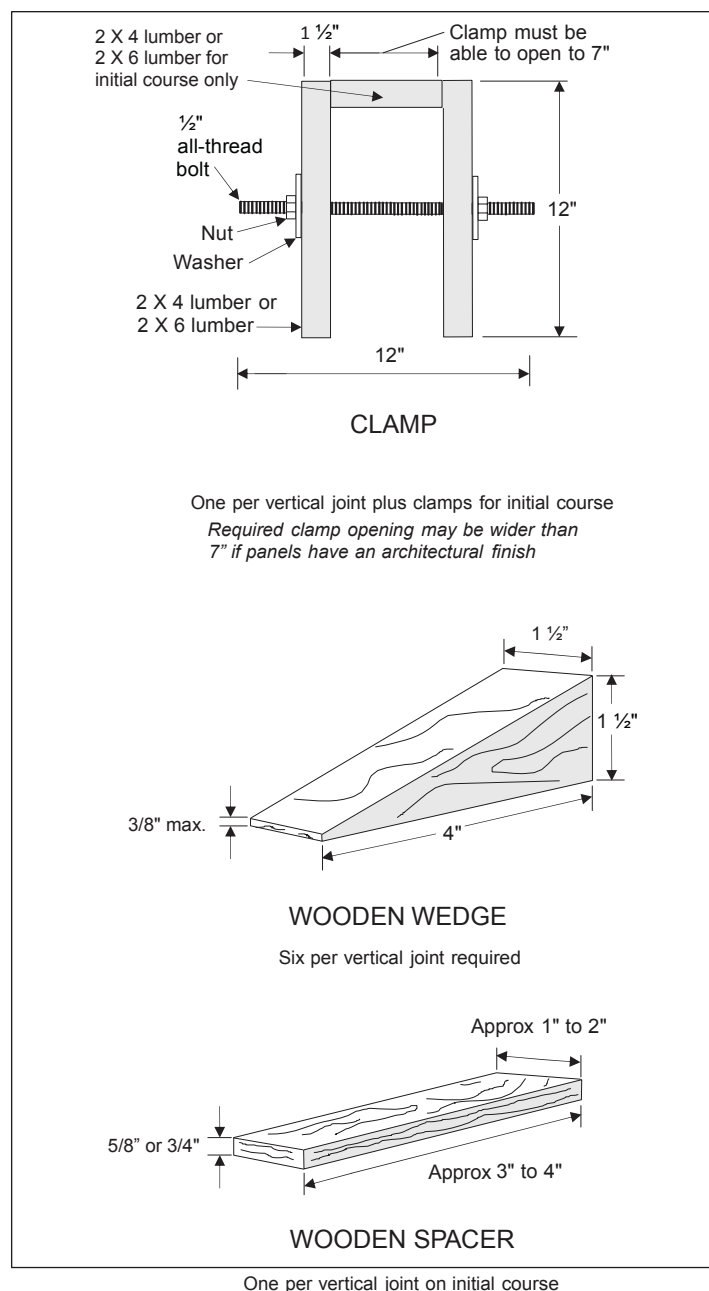

Figure 2
- **Tools** – 5/8-in. or 3/4-in. Wooden Spacers (Figure 2).
- Wooden wedges in a quantity at least sufficient to provide 4 to 6 wedges per vertical joint for the length of structure under construction (Figure 2).
- Clamps, one per vertical joint for the length of structure under construction. Additional clamps will be needed to brace the initial course of panels (Figure 2).